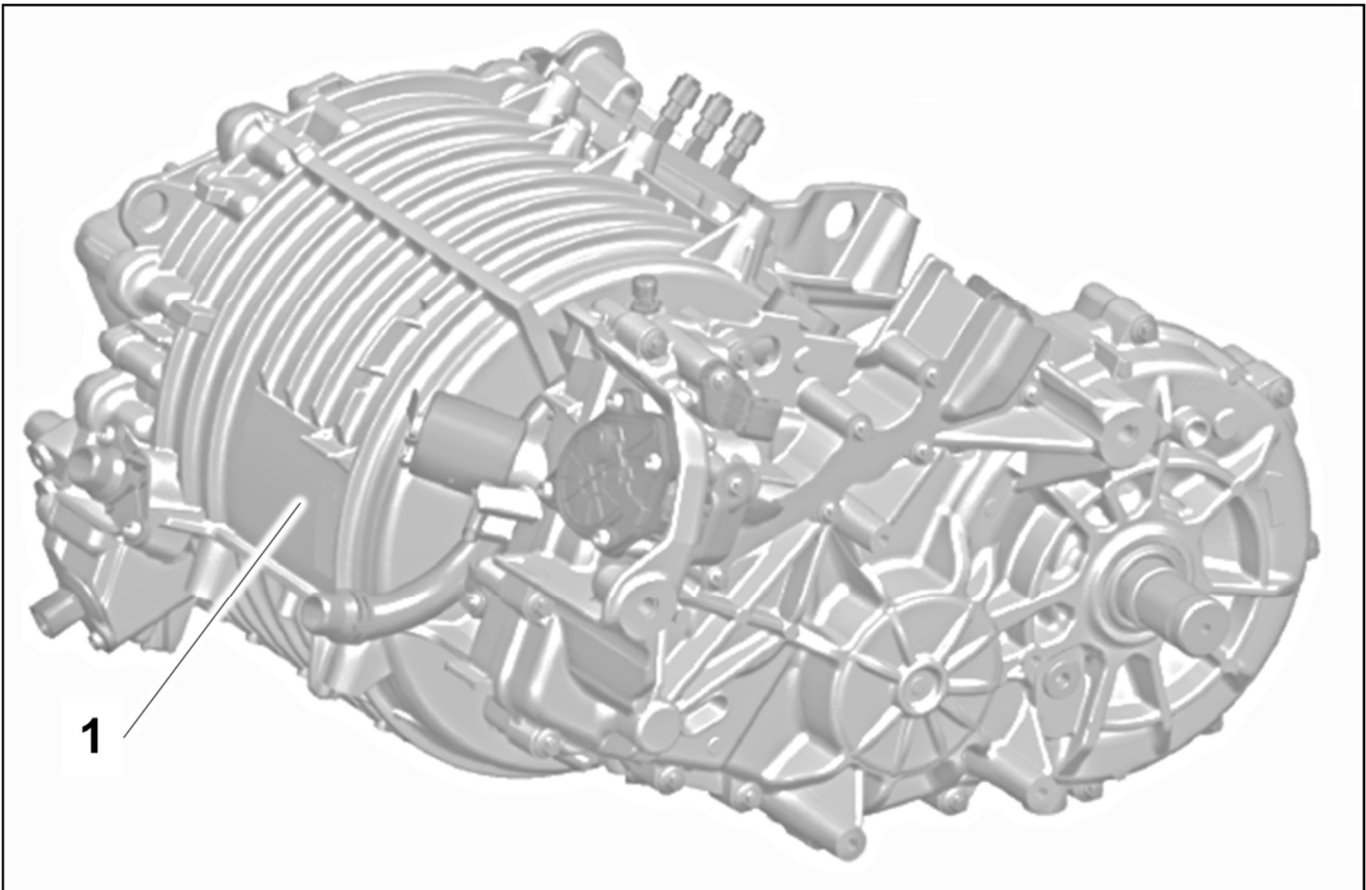

Figure 1
1. Replace front axle electric drive module (Figure 1, 1).